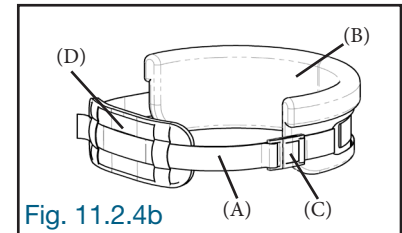

Fig. 11.2.4b
The strap (A) of the thoracic rest (B) should be adjusted and tightened to the user's body to hold it in place. To do this, adjust the length of the strap (A) by sliding it over the buckle (C) until the required length is achieved. Once the length is determined, securely attach the buckle (C). For better comfort, the cushion (D) should be centered on the user's back (Fig. 11.2.4b).